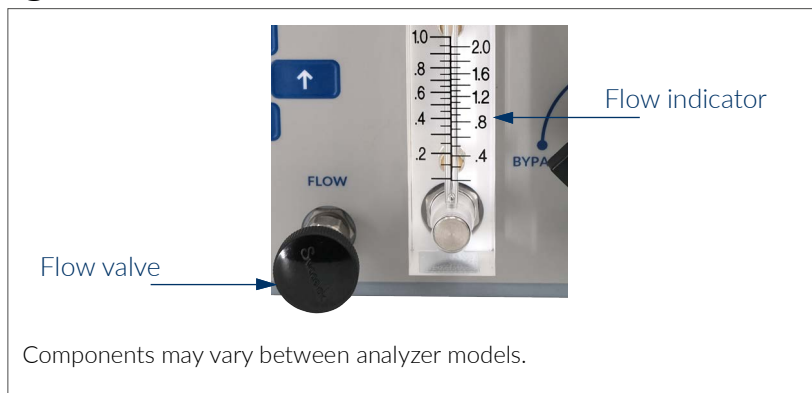

Figure 1 - Setting flow rate
2. Set the flow rate to 1...2 SCFH (refer to Figure 1 on page 5) and allow the gas to flow for 2...3 minutes to purge the bypass valve. Your analyzer is now ready to use.